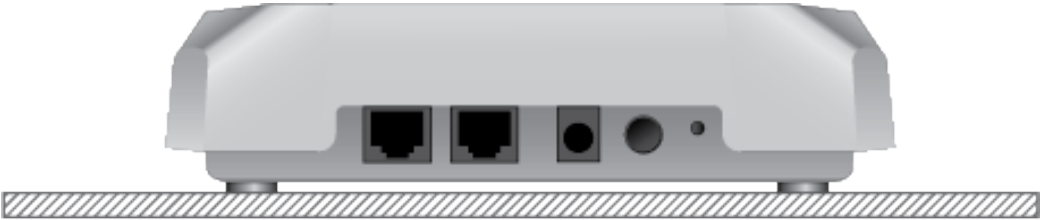

Figure 8. Approved Installation Orientations on a Ceiling, Wall, or Table
- ❑ Refer to Figure 8 on page 37 for approved orientations of the wireless access point on a table, wall, or ceiling.
1. Choose the location and orientation for the access point on the wall or ceiling. Refer to Figure 8 on page 37.